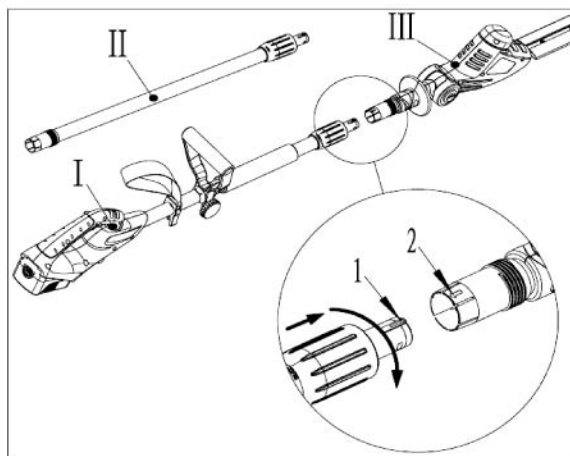

Fig.22
1. When inserted, the arrow 1 would have to target the arrow 2, and must be inserted fully. As shown in Fig 22